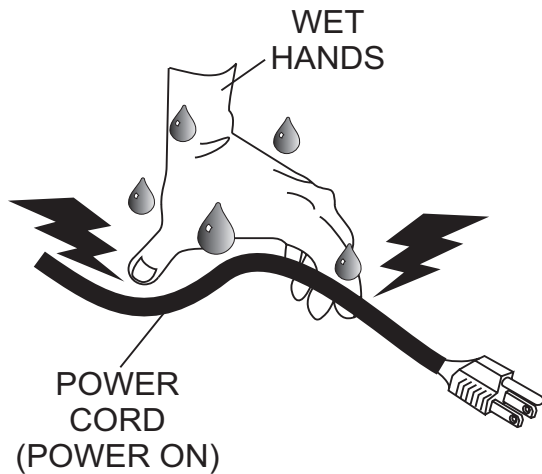

Figure 4. Power Cord (Wet Hands)
- NEVER!** grab or touch a live power cord (Figure 4) with wet hands, the possibility exists of **electrical shock**, **electrocution** and even **death**.